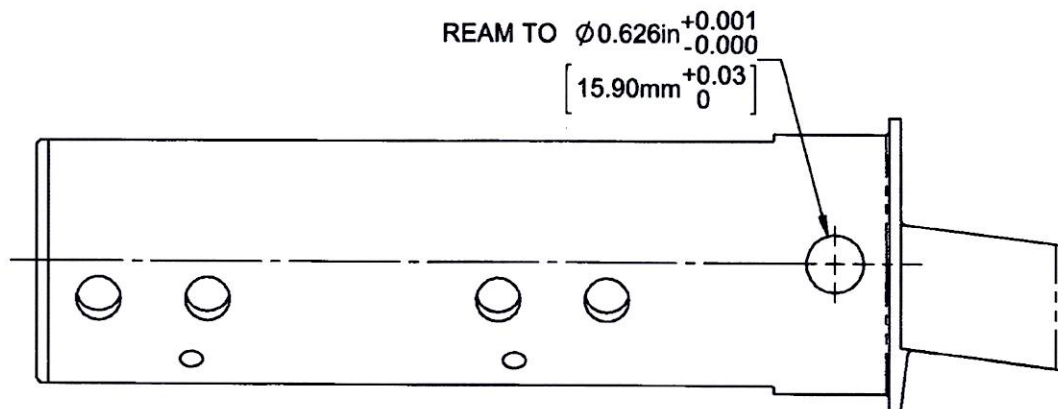

FIGURE 1: Blade Fitting Assembly Rework
- 2.1 Locate $\varnothing 0.508$ in (12.9mm) hole in the D3488-041/-042 Blade Fittings and enlarge to $\varnothing 0.610$ in (15.5mm), then ream to $\varnothing 0.626$ in $+0.001$ in/ -0.000 in (15.5mm $+0.15/-0$) as shown in Figure 1 of this Service Instruction.
The purpose of this Dart Service Instruction (DSI) is to replace the ground handling lugs (D3864-1 Bushings, AN6C51A Bolts and MS21043-6 Nuts) on the D117-762-XXX Skid tubes with a structurally superior lug design (D5300-1 Bushings, D5301-1 Plugs, AN6C52A Bolts, MS21043-6 Nuts) as shown in Figure 1. The new hardware will be included in D117-762-011 @ CHG 004 and subsequent.
- 2.1 Loosely install (qty 2) D5300-1 GHL Bushing & (qty 2) D5301-1 GHL Plug wet with Proseal 890 or MIL-S-8802 Class B2 Sealant in location shown in Figure 1.
- 2.2 Install (qty 2) AN6C52A Bolts and (qty 2) MS21043-6 Nuts in accordance with Figure 1. Clean up squeezed out Proseal and apply fillet seal around D5300-1 & D5301-1.